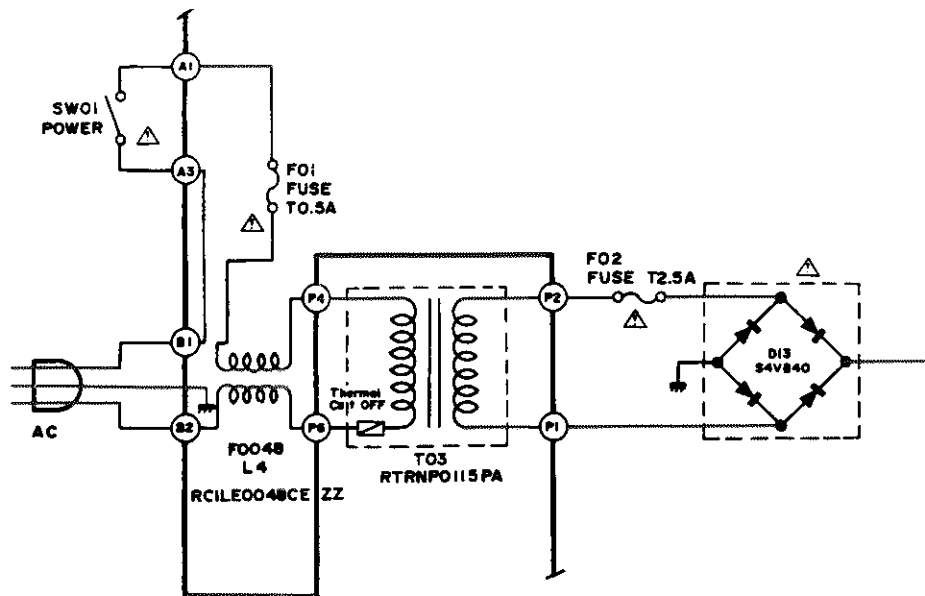

FIGURE 2-108. MONITOR POWER SUPPLY
2.8.4 Monitor Power Circuit (Figure 2-108)